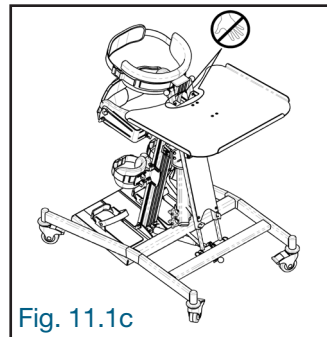

Fig. 11.1c
- When adjusting the table horizontally, DO NOT place fingers and hands between the back of the table (A) and the stabilizer platform (B) (Fig. 11.1c).